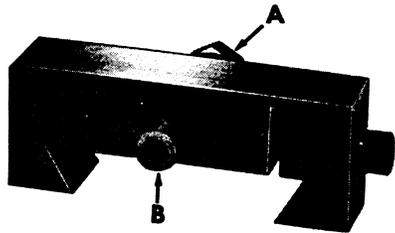

Figure 5
An adjustable screw (B, fig. 5) and lock nut (A) permit accurate setting. In mounting the cross slide stop on the cross slide dovetail, first remove the guard. Then clean the dovetail ways and clamp the stop in the approximate position required. Turn the adjusting screw into exact position and lock with the knurled nut. Place a small piece of paper or cardboard over the cross feed screw to keep it free from dirt and chips during the cutting operation.